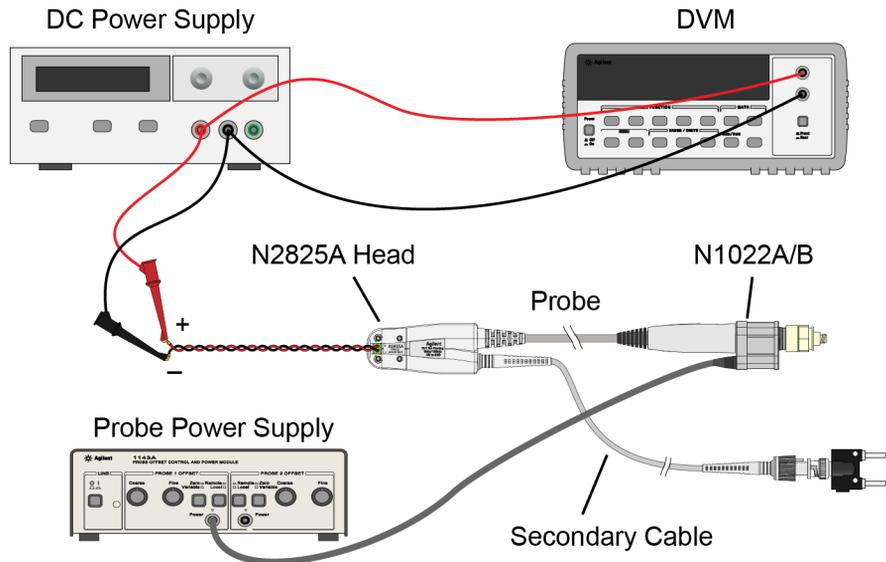

Figure 53 Test Setup for Measuring  $V_{in}$
- 1 Snap an N2825A head onto the N2820/1A probe and connect the test equipment as shown in Figure 53. Be sure to connect the positive side of the DC supply to the red lead on the N2825A head.
- 8 Connect the multimeter on the DC power supply as shown in Figure 53 on page 107.